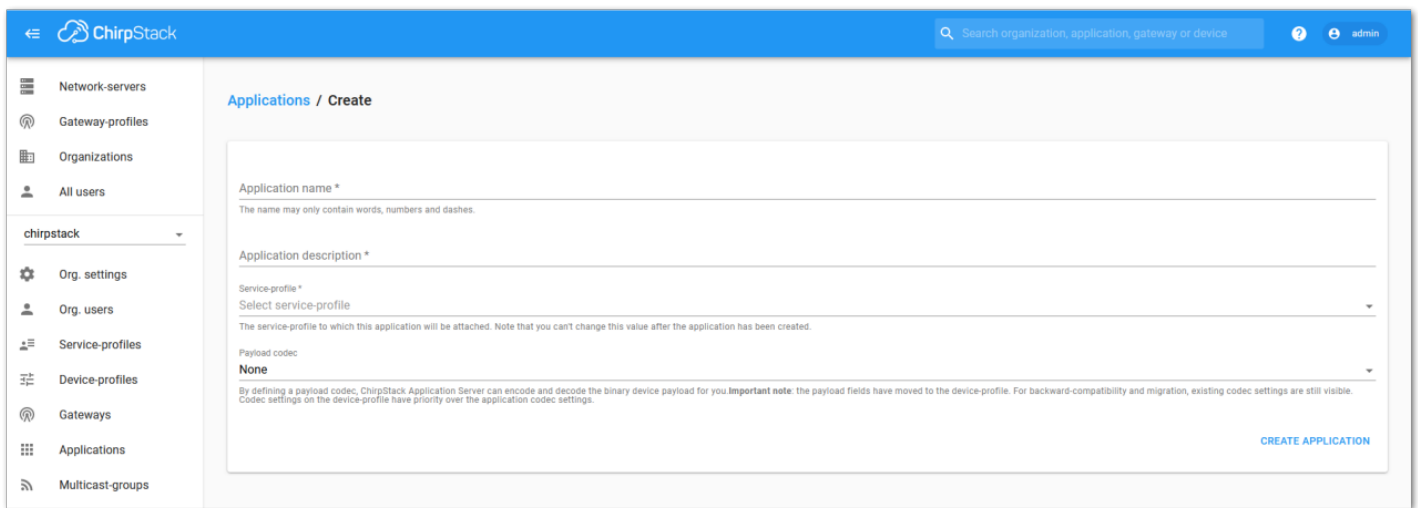
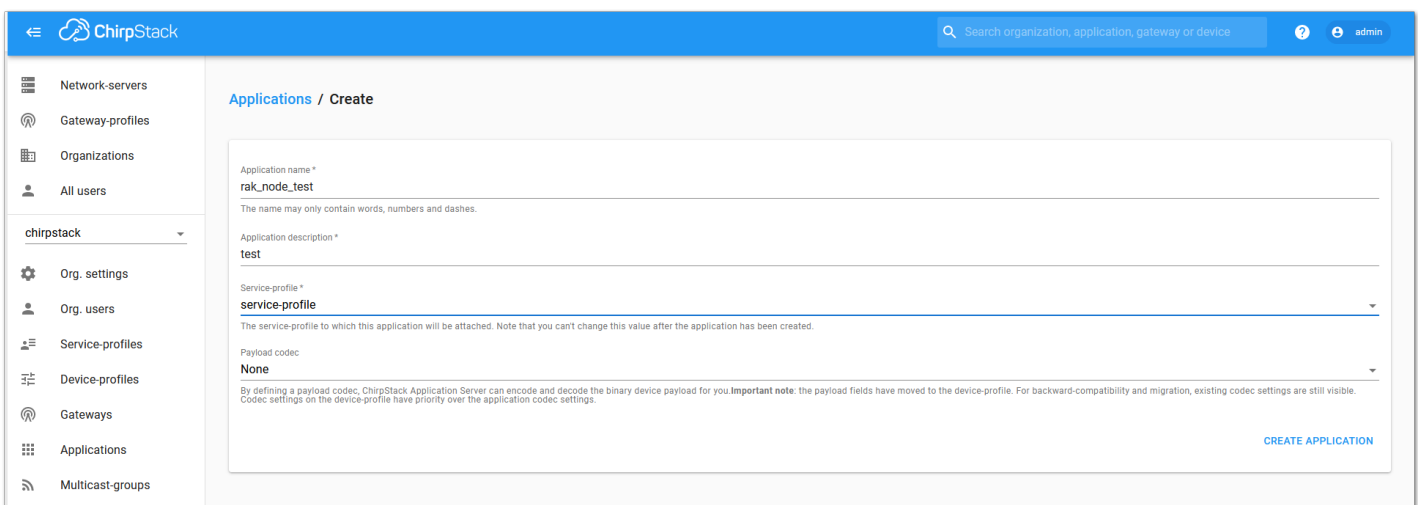

Figure 207: Creating a New Application
Figure 208: Filling Parameters of an Application
3. By default, you should create a new application, although you can reuse existing ones. For this setup, create a new Application by clicking on the **CREATE** button and filling in the required parameters, as shown in **Figure 207** and **Figure 208**.